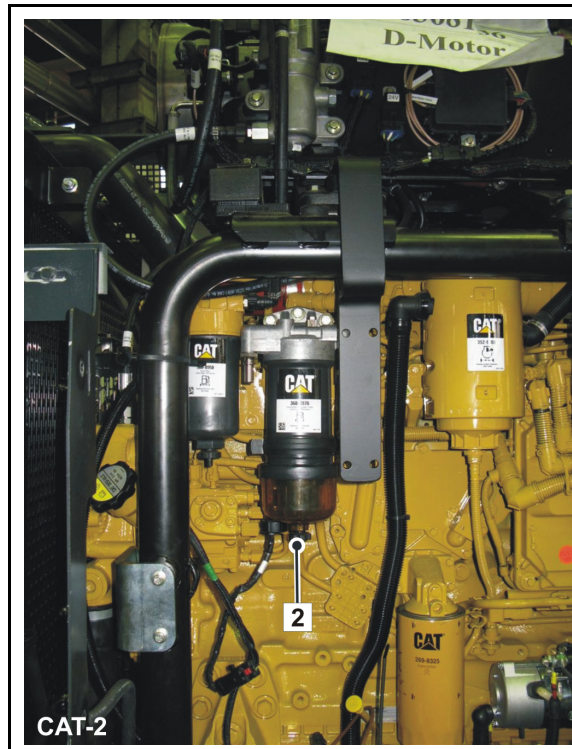

Fig. 18
- Loosen the breather screw (2) (**Fig. 18**)
Caption (Fig. 18)